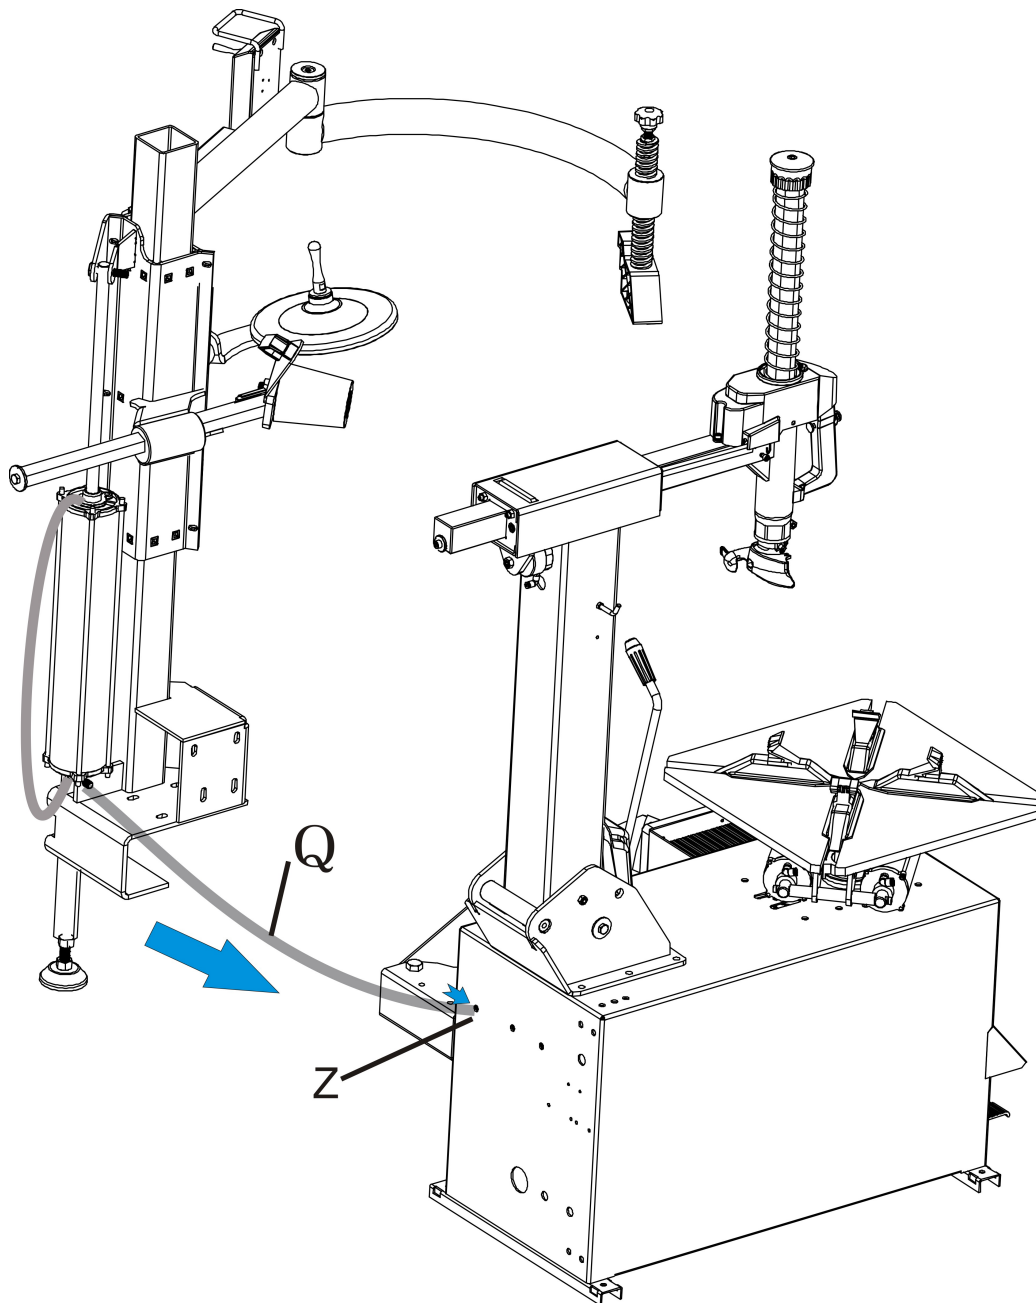

Fig. 7
- Connect the connector on the Q into Z at the back of chassis(Fig.7). (Please remove the cap if these is any) .